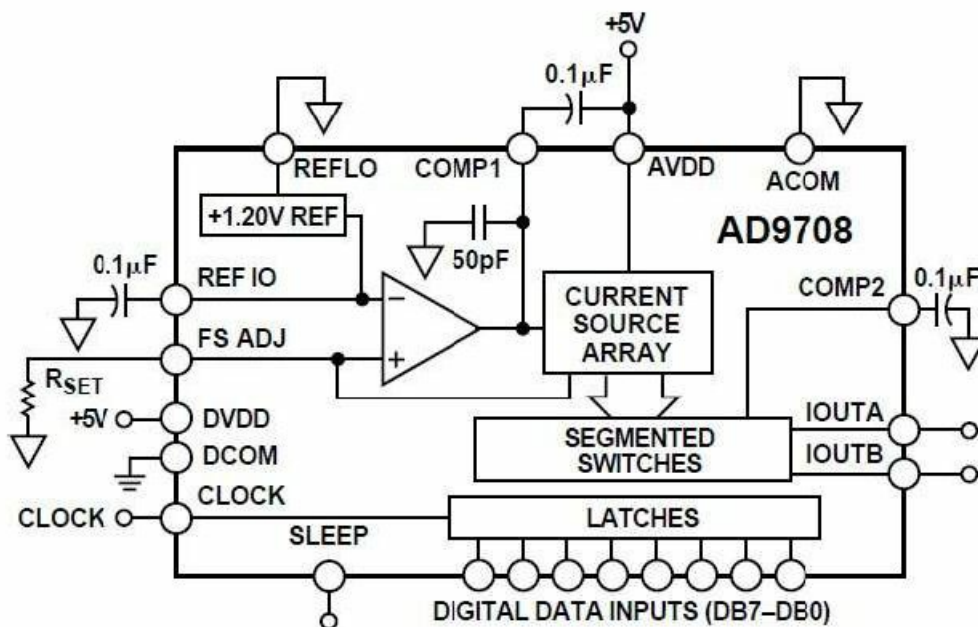

Figure 3-1: The Functional Block Diagram of Chip AD9708
- The high-speed DA chip we use is the AD9708 from AD. The AD9708 is an 8-bit, 125MSPS DA conversion chip with a built-in 1.2V reference and differential current output. Figure 3-1 is the functional block diagram of chip AD9708.